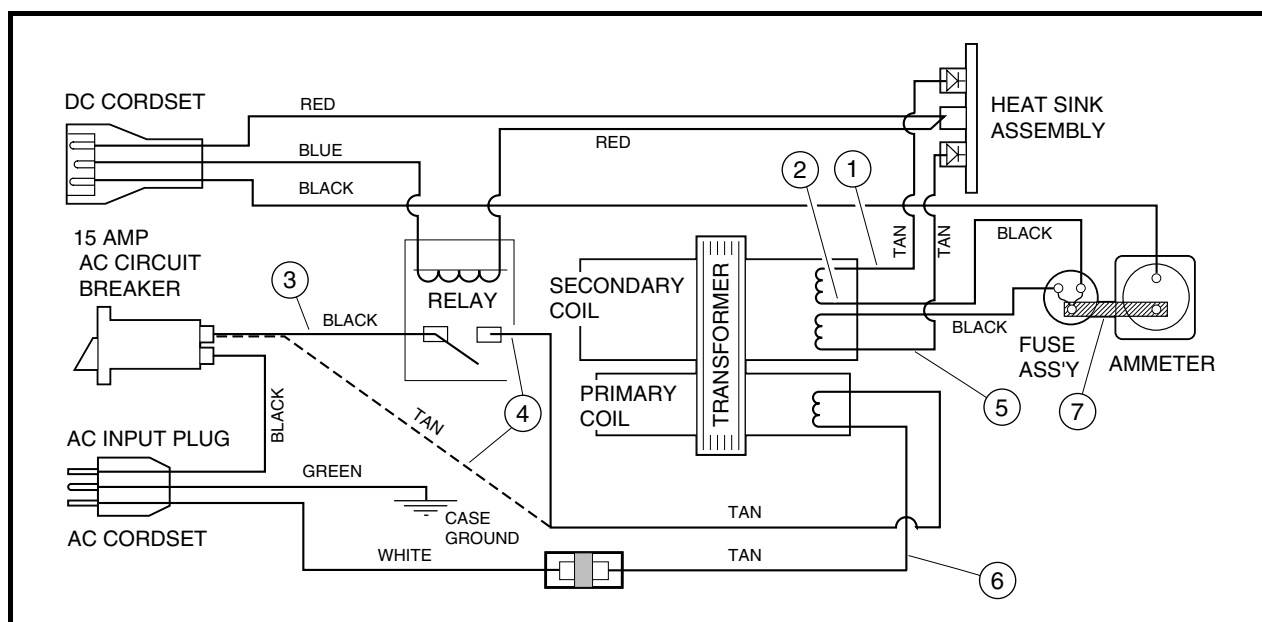

Figure 14-16 Transformer Test Wiring Diagram
- 5.1. Disconnect the tan lead (from the primary coil) and the black lead (from the circuit breaker) from the charger relay. Connect the tan lead to the circuit breaker (**Figure 14-16, Page 14-17**).
6. If the circuit is not complete, check the wiring of the AC cord, transformer primary coil leads, internal AC circuit breaker, and jumper wire (**Figure 14-16, Page 14-17**).
1. Disconnect transformer secondary coil leads Nos. 1 and 5 from heat sink assembly (**Figure 14-16, Page 14-17**).
3. To bypass the relay, remove the black wire (3) from the circuit breaker and disconnect the tan wire (4) from the relay. Connect the tan wire to the circuit breaker (**Figure 14-16, Page 14-17**).
5. If the AC line fuse or circuit breaker does not blow, check the transformer secondary voltage across lead Nos. 1 and 5 using a multimeter set to 500 volts AC. If measured voltages are approximately 85 volts AC or lower for the secondary coil, the transformer is shorted internally and must be replaced (**Figure 14-16, Page 14-17**). **See following DANGER.**
The PowerDrive battery charger transformer has two coils; a primary coil and a secondary coil (**Figure 14-16, Page 14-17**).
2. Disconnect terminals from transformer tan primary leads (4) and (6) (**Figure 14-16, Page 14-17**).
2. Remove the transformer (tan) secondary coil lead (1) from the upper terminal of the heat sink assembly (**Figure 14-16, Page 14-17**). **See following DANGER.**
3. Remove the other transformer (tan) secondary coil lead (5) from the bottom terminal of the heat sink assembly and place the tester clip on the ammeter bus bar (7) (**Figure 14-16, Page 14-17**). Place the continuity leads on each (tan) secondary coil lead. Tester should register continuity. If tester does not register continuity, replace transformer. Be sure the fuse is intact and not blown.
2. Remove the black (3) and tan (4) wires from the contact terminals of the relay (**Figure 14-16, Page 14-17**). Place continuity tester leads on contact terminals of the relay. Tester should register no continuity. If tester registers continuity, the relay contacts are welded shut and the relay must be replaced.